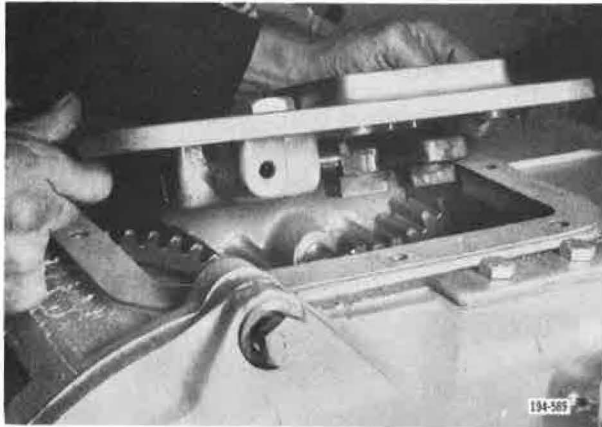

Figure 5-995. Installing Cover
29. Install front case top cover. See Figure 5-995.